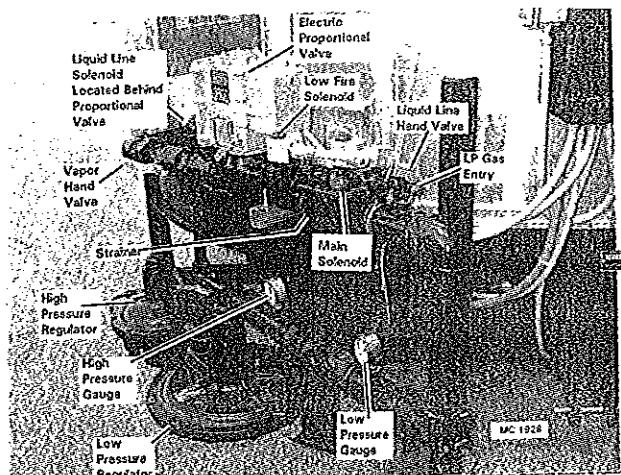

Figure 49 - LP Gas Manifold
2. Open the gas vapor hand valve (Figure 49) half way.